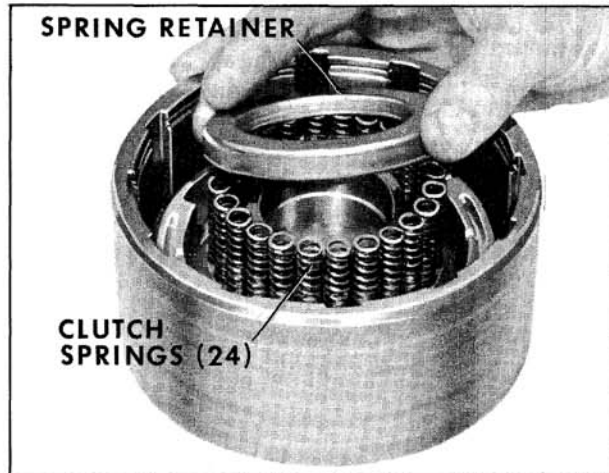

Fig. 6-446 Installing Springs and Retainer
6. Carefully reassemble return springs, retainer and snap ring. (Fig. 6-446)